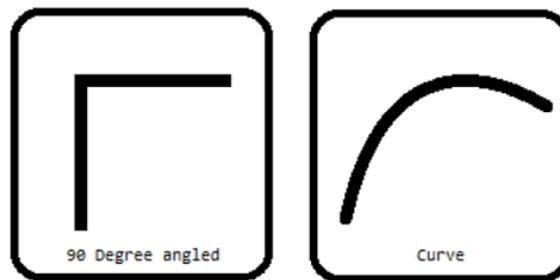

Figure 2: Possible geometric characteristic of the line may appear in the section 1
5. Some of the possible geometrical characteristics of the path are illustrated in **Figure 2** and they will be appear in the section 1